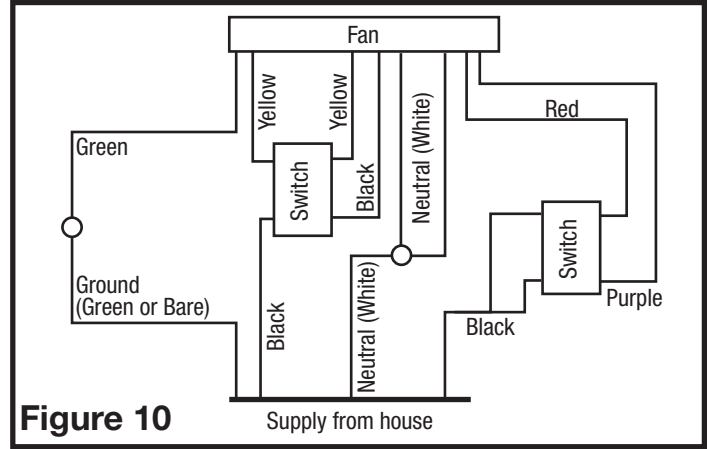

Figure 10
3. **Intermittent Ventilation:** For two speed fans wired for intermittent ventilation with a standard duplex toggle switch (such as Leviton 5224-2W not included). Connect the White wires of the fan to the White (Neutral) wire from the power source. Connect the ground wire from the fan to the ground wire from the power source. Properly ground the switches. Connect the black wire from the supply to one side of the top switch. Connect the black wire from the fan to the other side of the top switch, Connect 1 yellow wire from the fan to each side of the bottom switch. The top switch turns the fan On & Off, the bottom switch changes speed between high and low. Using a second properly grounded standard duplex toggle switch, connect the Black wire from the supply to one side of the top and bottom switch. Connect the Red wire (light) from the fan housing to the other side of the top switch and connect the Purple wire (night light) from the fan housing to the other side of the bottom switch (**Figure 10**).